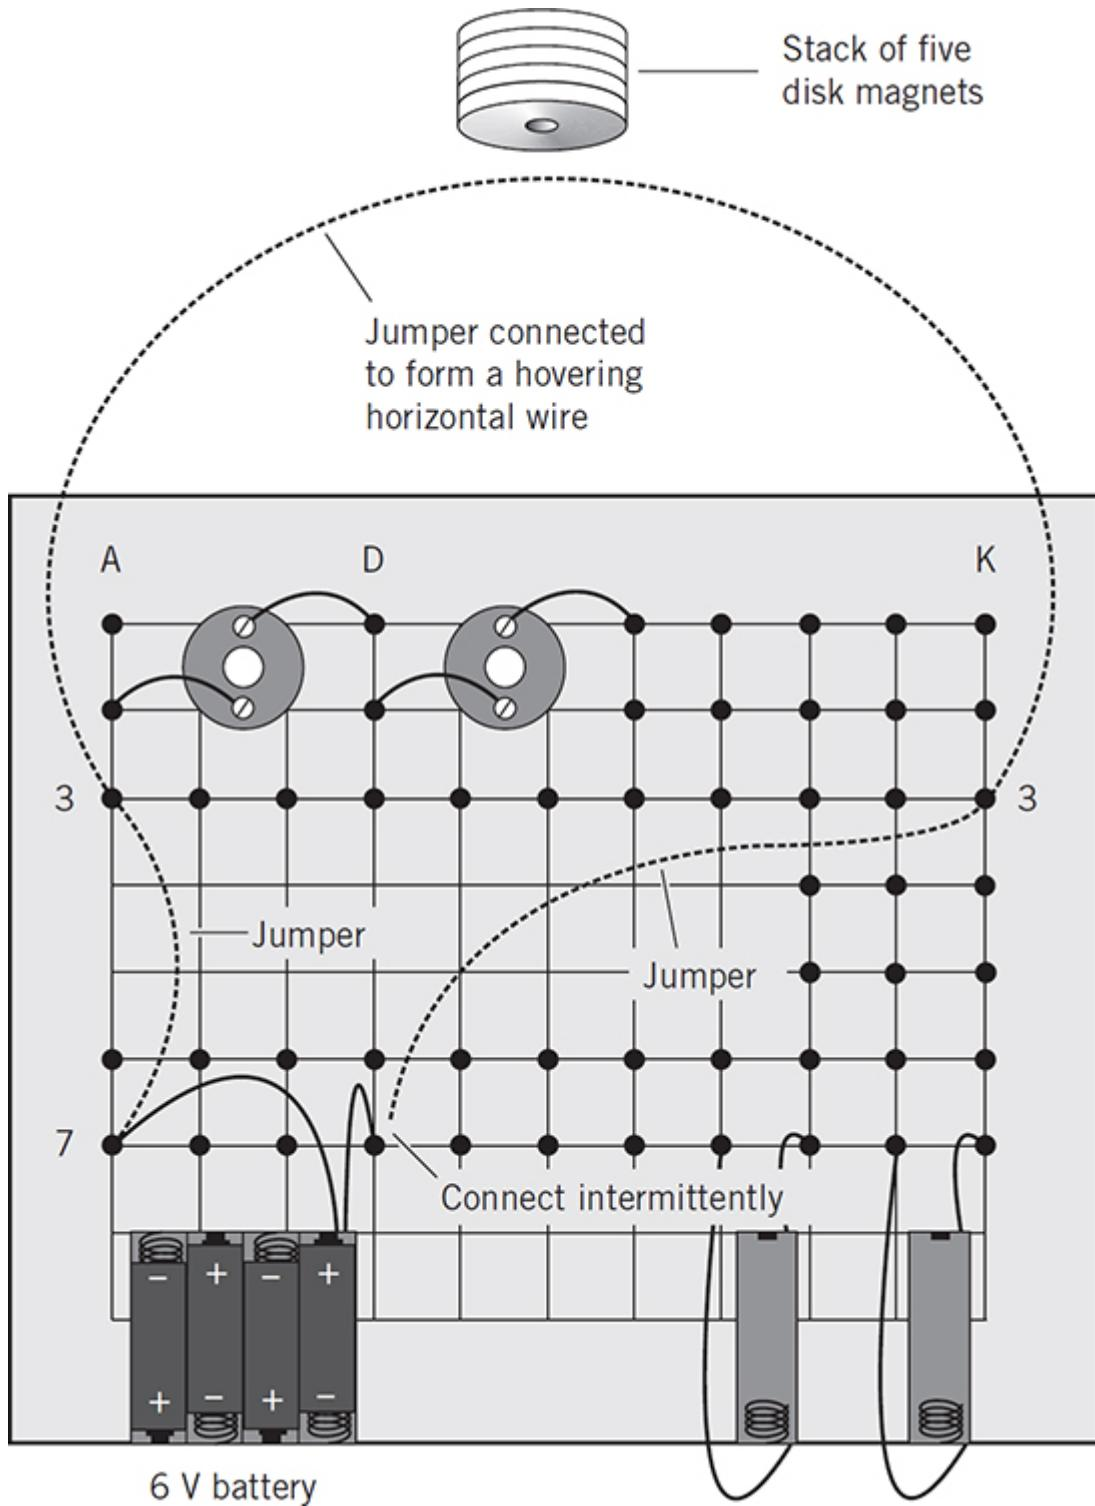

FIG. 1-3 Pictorial drawing that shows the physical layout of a test circuit for magnetism experiments.
- A *pictorial diagram* (sometimes called a *layout diagram*) shows the physical arrangement of the components on a circuit board or chassis so you can identify them for installation, testing, or replacement. Some such “diagrams” are actual photographs. Keep in mind, however, that pictures rarely reveal the electrical events that occur in a circuit or system. Figure 1-3 is a simple example.